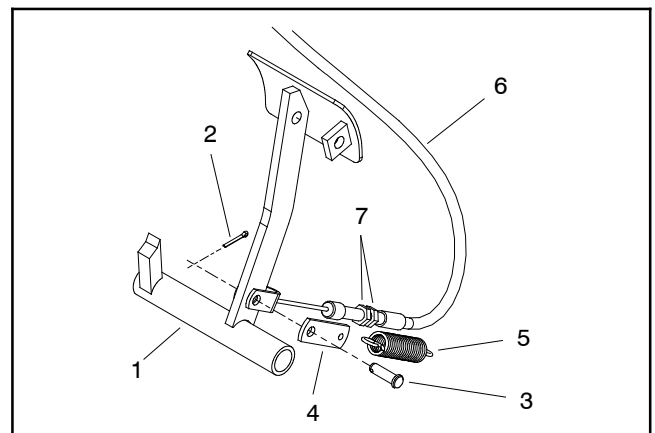
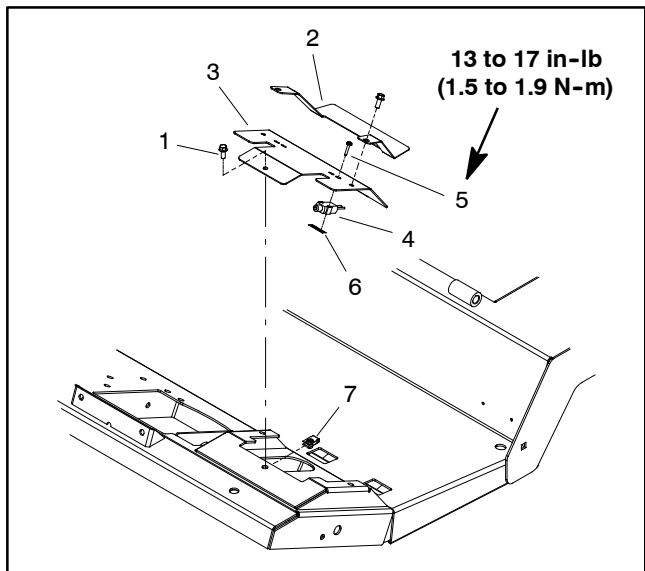

Figure 15
Figure 16
6. Disconnect both brake cables from brake pedals and operator frame (Fig. 15). Access to brake cable jam nuts can be obtained by removing adjustment cover on operator platform (Fig. 16). Position brake cables away from operator platform.